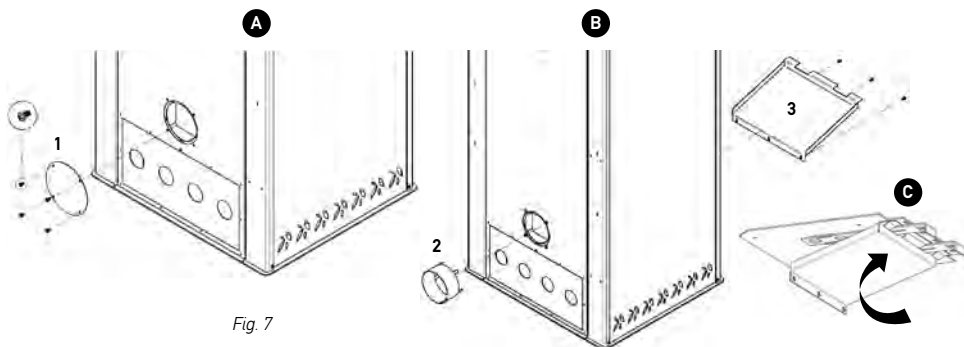

Fig. 7
- > Install the frond cover (3) and secure it with 3 screws (Fig. 7 B&C)